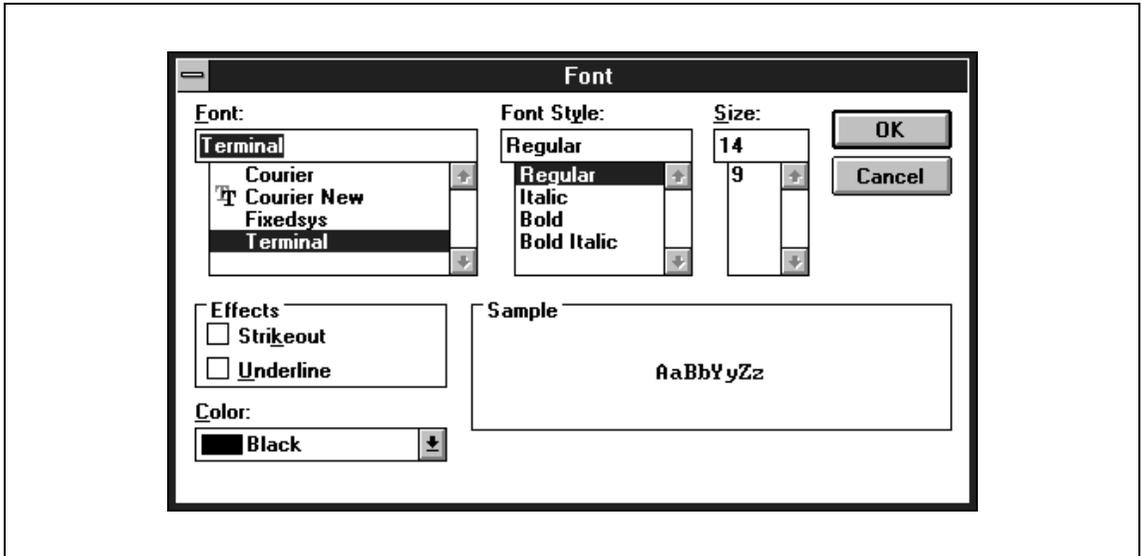

Figure 3.23 Screen Setting Box
2. Selecting Screen in the Setting menu displays the Screen Setting box (figure 3.23). The Screen Setting box can also be displayed by pressing (Alt) + S keys and then the S key.